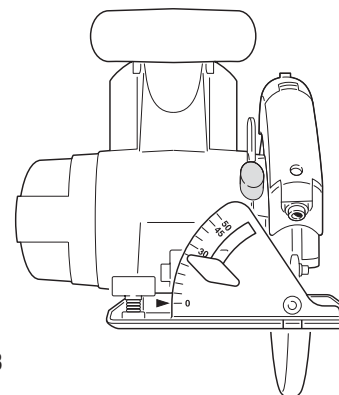

FIG. 3
5. Use the wrench to tighten the clamping screw while pressing down on the clamping knob (see Fig. 3 and Fig. 4).
2. Use the wrench to loosen the clamping screw while pressing down on the blade safety lock button (see Fig. 3 and Fig. 4).